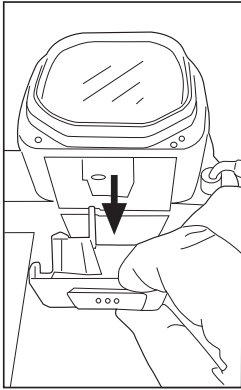

Fig. 17
- Take hold of the hopper and apply a light pressure to remove it from the machine body (**Fig. 17**)